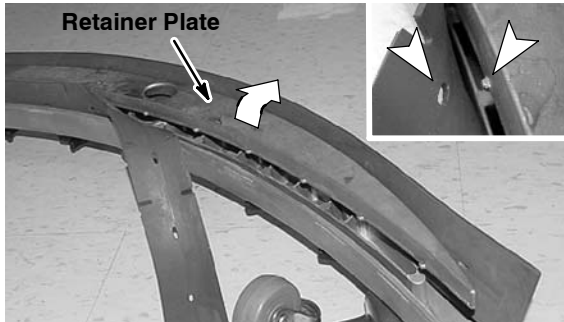

FIG. 53
4. To replace the front blade, remove the rear band and fully loosen the four squeegee assembly knobs, do not remove the knobs. Lift and tilt the retainer plate to access the front blade (Figure 53). Rotate the front blade to a new wiping edge and return the retainer plate. Make sure the retainer plate tabs engage the blade slots. Reinstall the band then retighten the knobs.